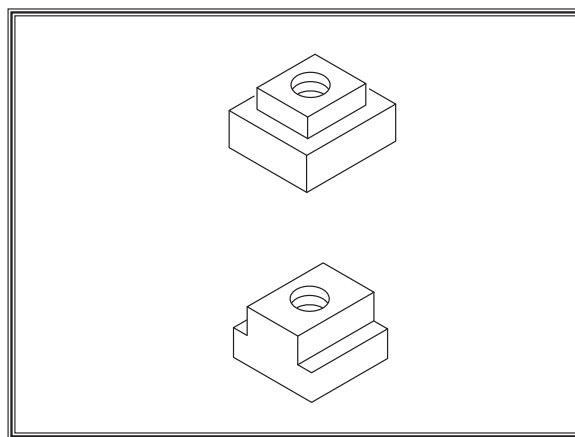

Figure 4. Two T-nut styles.
1. Remove the 2 T-nuts (see **Figure 4**) from one of the adjustable handles and check to see which fits best in the slots on your drill press table.